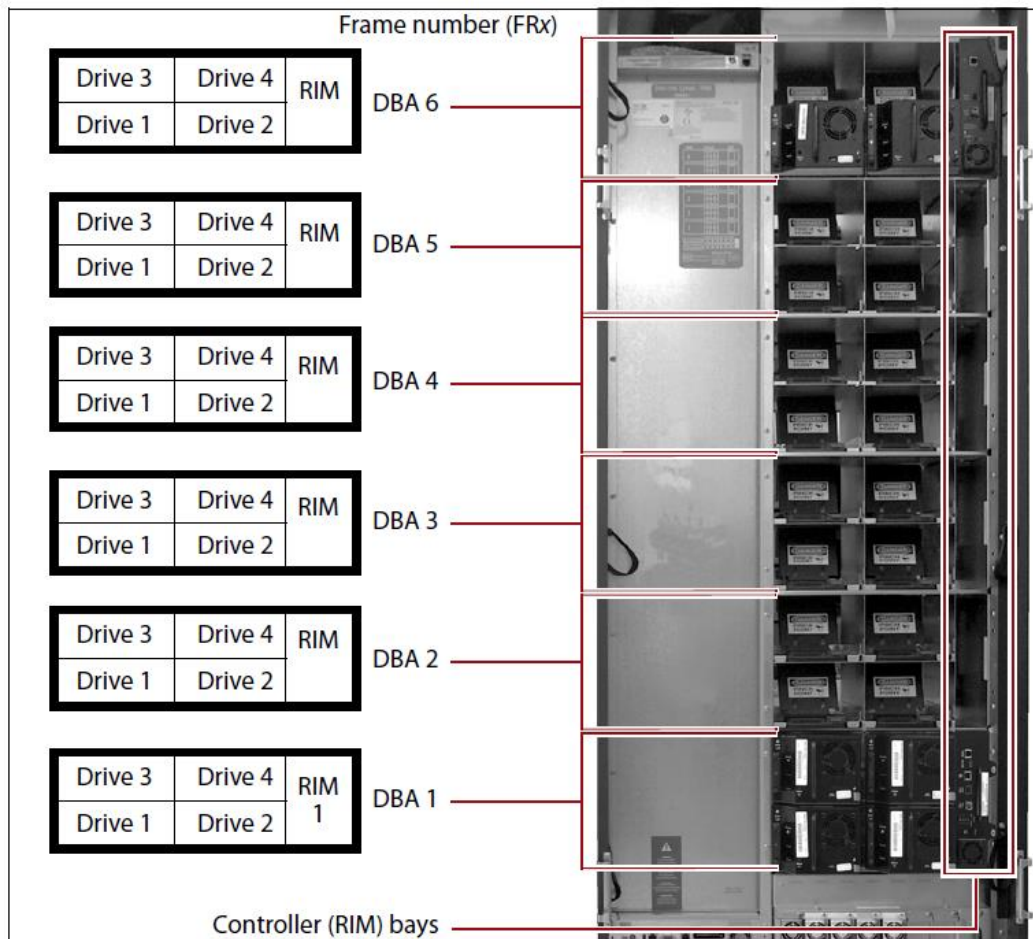

Figure 22 The relationship between the DBA, drive, and RIM locations and their identifiers in the BlueScale interface and XML interfaces.
Figure 22 shows the relationship between the DBAs and the locations of the drives and RIMs in the main frame. The relationships are the same in each drive expansion frame.
- **DBA_x** is the number of the DBA where the RIM is installed (see Figure 22 on page 70). The main frame and each drive expansion frame accommodates from three to six DBAs.
The component identifier for each drive is based on its location relative to the frame and the DBA where it is installed, as viewed from the back of the library (see Figure 22 on page 70). The component identifier for a drive is shown as **FR_x/DBA_x/fTYPE-DRV_x**, where: